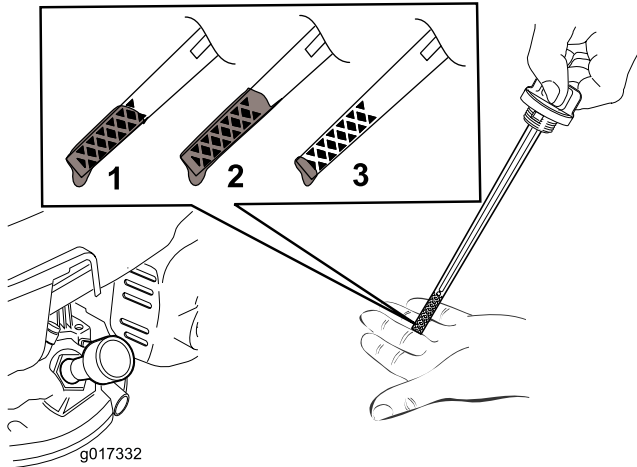

Figure 12
5. To determine the proper oil level on the dipstick, refer to Figure 12.
Note: Fill the engine crankcase with oil until the dipstick indicates that the engine-oil level is correct as shown in Figure 12. If you overfill the engine with oil, remove the excess oil as directed in Changing the Engine Oil \(page 16\).